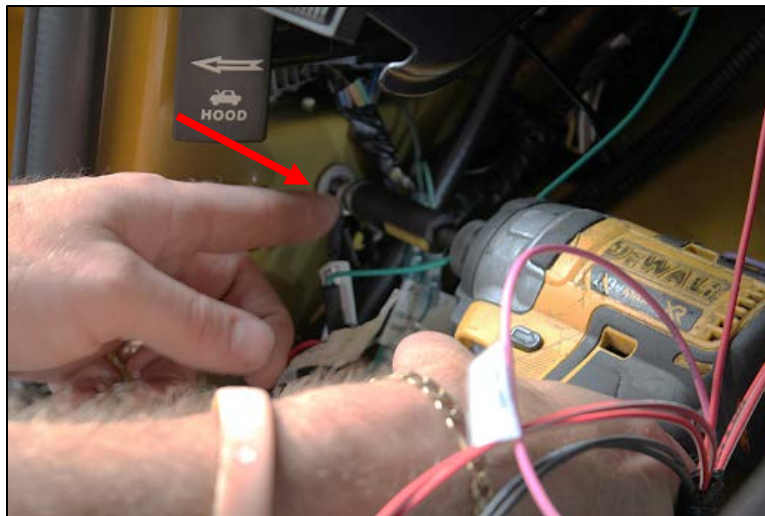

Figure 6: Kick Panel Bolt
10. Locate the bolt on the kick panel and remove it. See **Figure 6**.